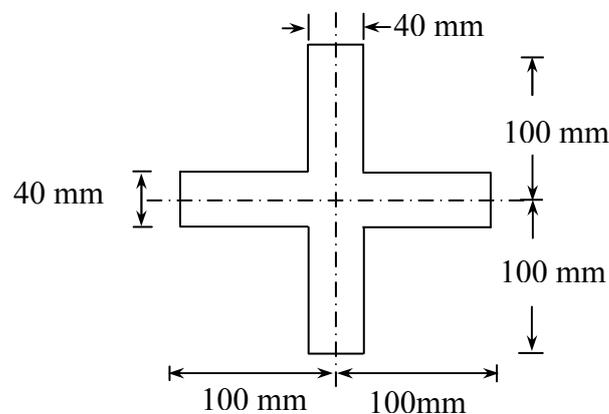

Figure 1.
- (1) The ratio of collapse load of a propped cantilever of span ' l ' carrying a uniformly distributed load throughout the span to that of a simply-supported beam carrying the same load is _____ (1.457, 1.5, 2.0, 3.0).
- (2) The shape of the cross-section, which has the largest shape factor, is _____ (Rectangular, I-section, diamond, solid circular).
- (3) In the theory of plastic bending of beams, the ratio of plastic moment to yield moment is called _____ (Shape factor, plastic section modulus, modulus of resilience, rigidity modulus).
- (4) In the theory of plastic bending of beams, the ratio of the collapse load to the working load is called _____ (Load factor, shape factor, factor of safety, plastic section modulus).
- (a) Calculate the shape factor for the section shown in Figure 1. **07**